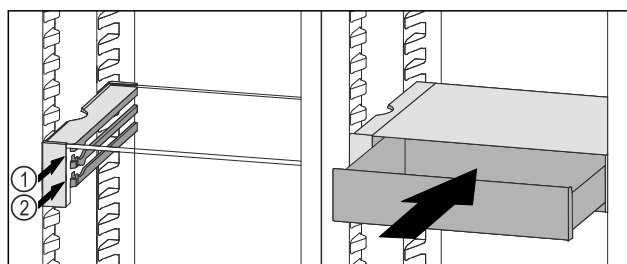

Fig. 96
- Place the VarioSafe drawer behind the stoppers on desired rib Fig. 96 (1) or Fig. 96 (2).